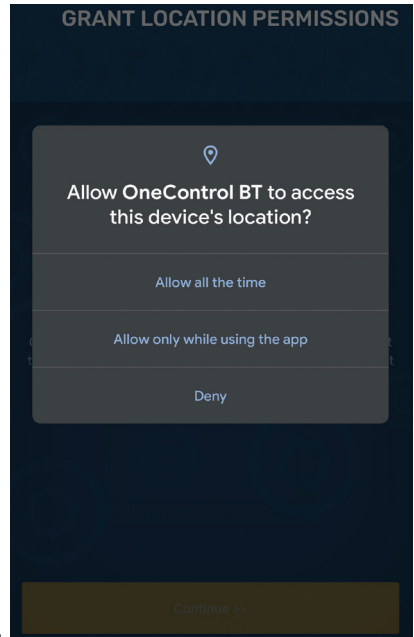

Fig.4
5. Allow OneControl BT access to the device's location (**Fig.4**). Make a selection to move forward with setup. “Deny” will stop process.